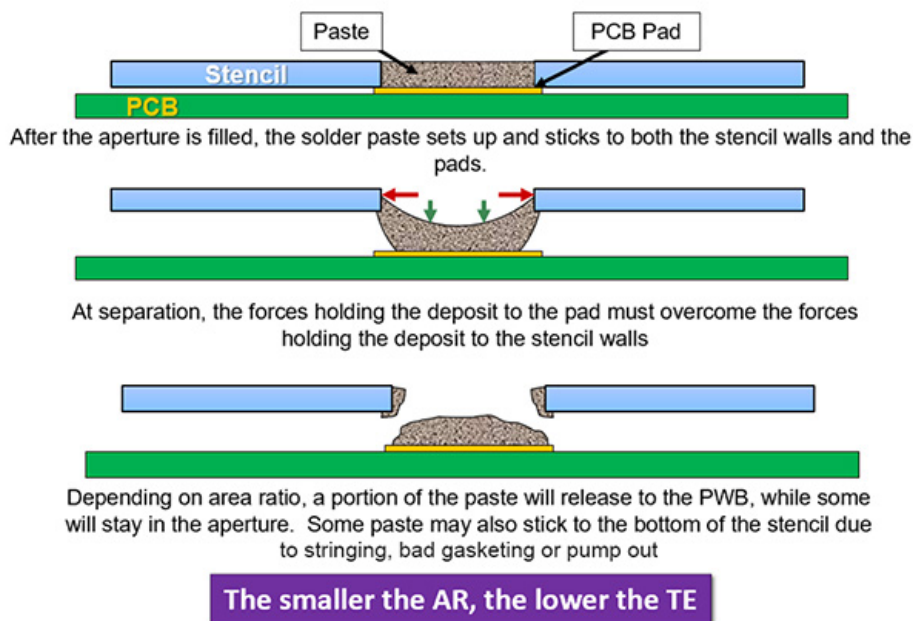

Figure 2. Opposing forces in solder paste release from stencil aperture.
- Transfer efficiency (TE) is the percentage of paste that is actually transferred out of the stencil aperture onto the PCB, as opposed to what was left sticking inside the aperture walls or on the bottom of the stencil (**Figure 2**). It is calculated as the average paste deposit volume divided by the aperture's volume and expressed as a percentage. A common benchmark is 80% TE.